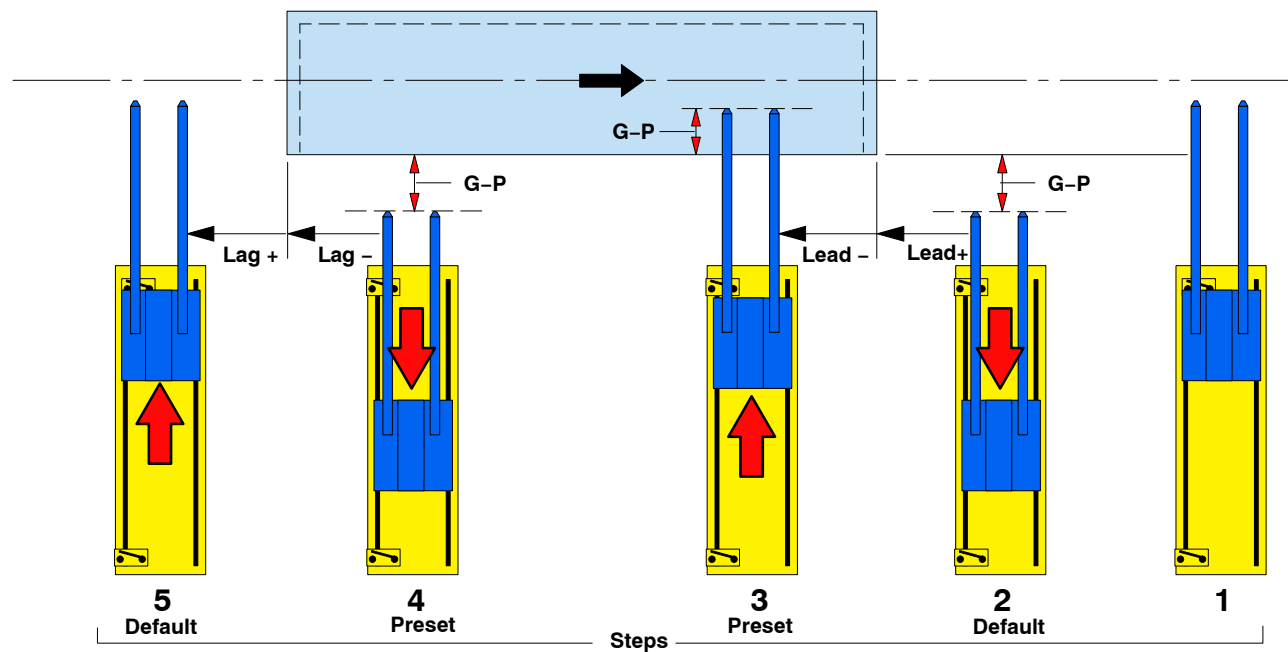

Figure 6-5 Variable Positioning – Lancing into Deep Recesses
1. See Figure 6-5. The positioner waits at the configured position.